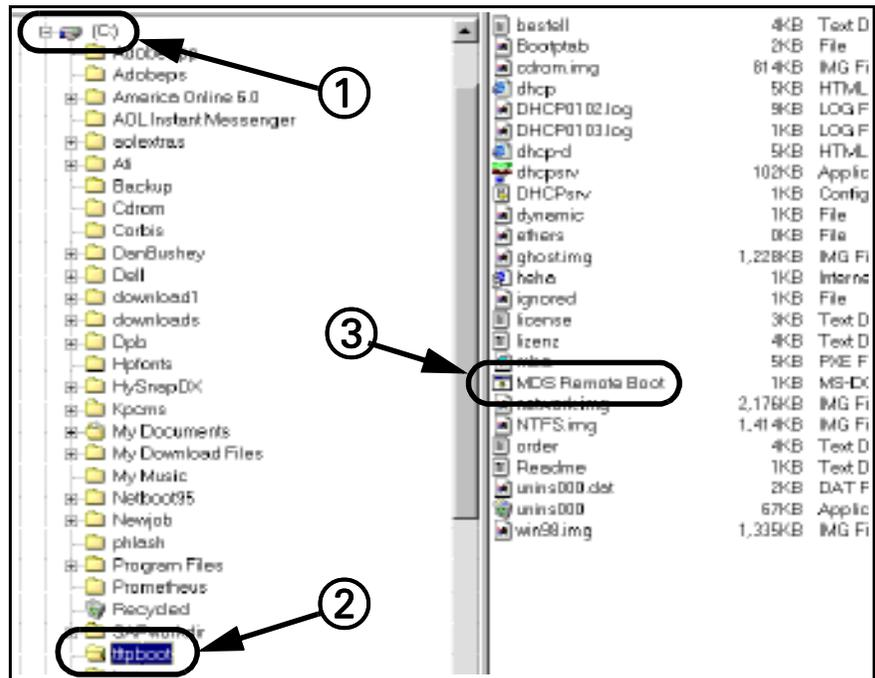

Figure 3-12 Windows Explorer
2. Double-click on *C* drive icon (① in Figure 3-12) in left pane of window.
3. Click on *tftpboot* folder (② in Figure 3-12) in left pane.
4. Double-click on *MDS Remote Boot* icon (③ in Figure 3-12) in right pane.